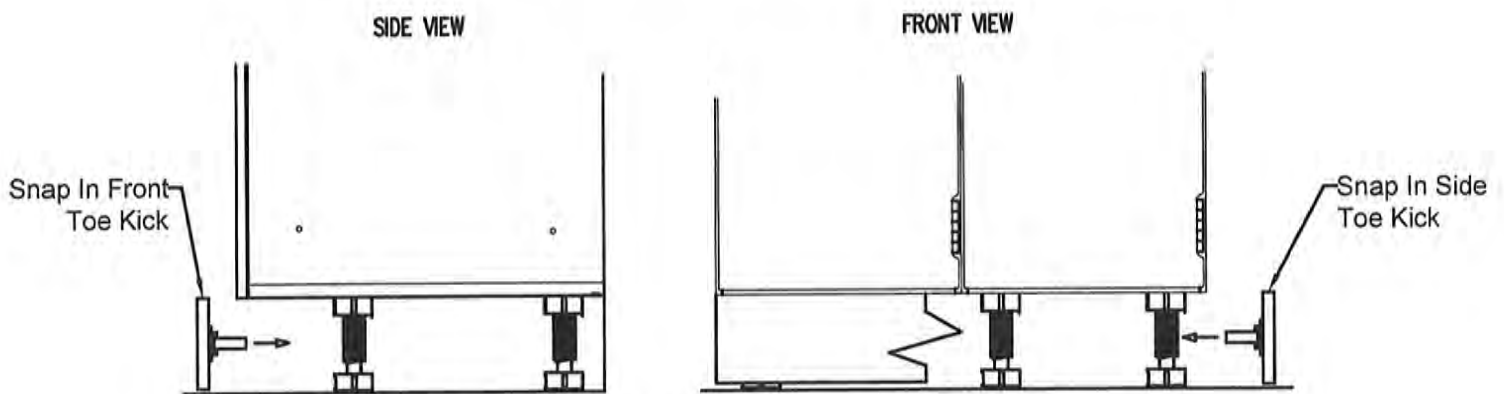

Figure 8.2 Locker Toe Kick Installation
- 8.7 Install the toe kick strip on the legs of the locker by pressing or tapping with a rubber mallet on the face of the toe kick strip and snapping the clip onto the legs, see Figure 8.2.